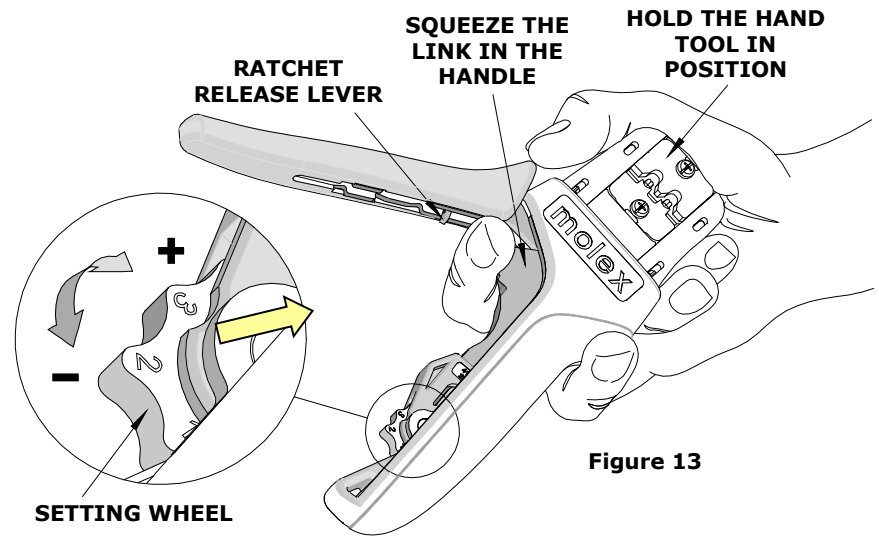

Figure 13
### How to Adjust Tool Preload (See Figure 13)
1. Hold the hand tool in the palm of your hand as shown in Figure 13. Using your index finger, squeeze the link toward the top of the hand tool frame. This will release the preload adjustment wheel.
2. Rotate the setting wheel counterclockwise (CCW) to increase handle force. The numbers will display higher. To decrease handle force, rotate the setting wheel clockwise (CW).